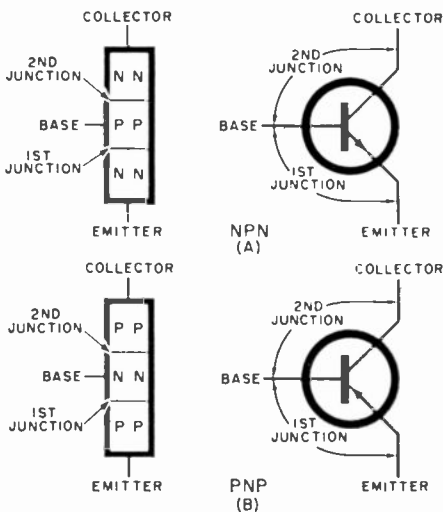

Fig. 2. Most transistors consist of two junctions.
**Junction Transistors.** These transistors are fabricated by making a “sandwich” of two junctions, and can be arranged in two ways—the *npn* method as shown in Fig. 2(a), or the *pnp* method as shown in Fig. 2(b).